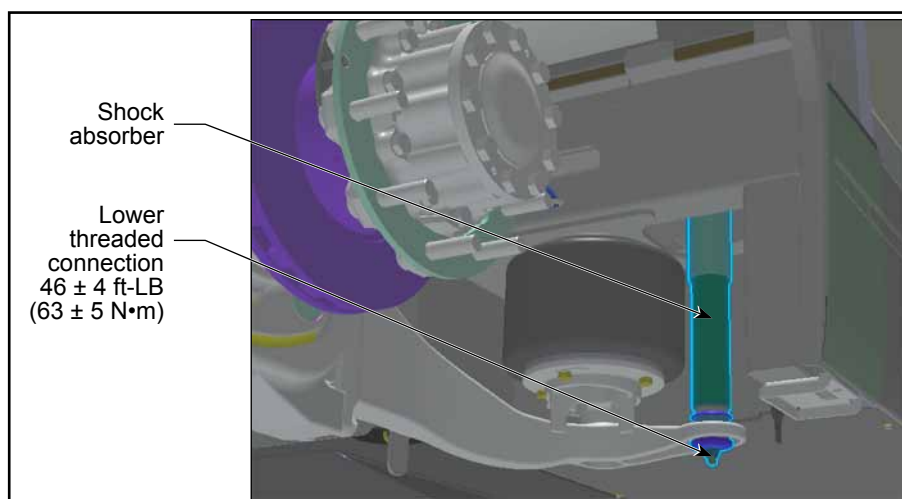

Figure 7 - Shock Absorber
- 2.24. Loosen the lower threaded connection of the two shock absorbers, and push the shock absorber upwards. See Figure 7.
- 2.56. Attach both shock absorbers and rubber joint on the spring carrier, and fix the appropriate retained hex nuts. See Figure 7. Apply a lubricant such as Never-Seez or equivalent.